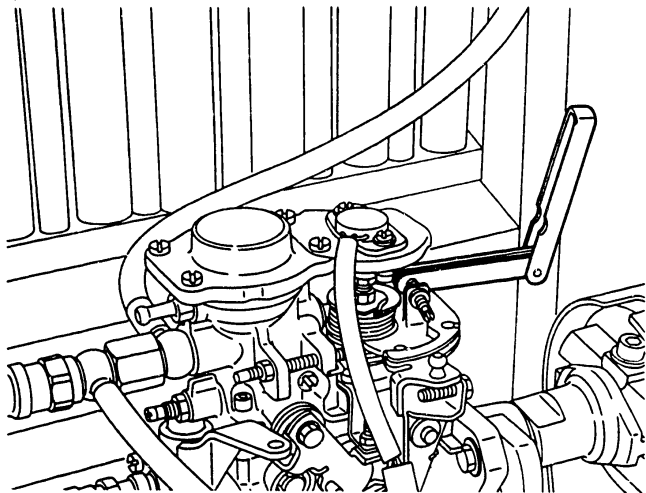

Fig. 222 Measuring the injection quantity
1. After adjusting the control lever position so that the distance between the tip of the idle adjusting screw and the control lever is as specified, measure the injection quantity at the specified injection pump speed. (Fig. 222 )